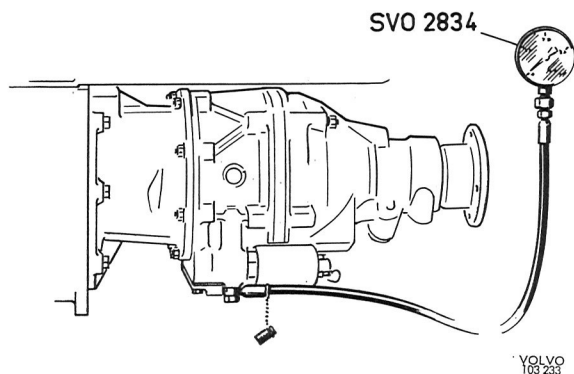

Fig. 4-51. Oil pressure check
1. Remove the plug under the operating valve and connect the pressure gauge 2834, see Fig. 4-51.